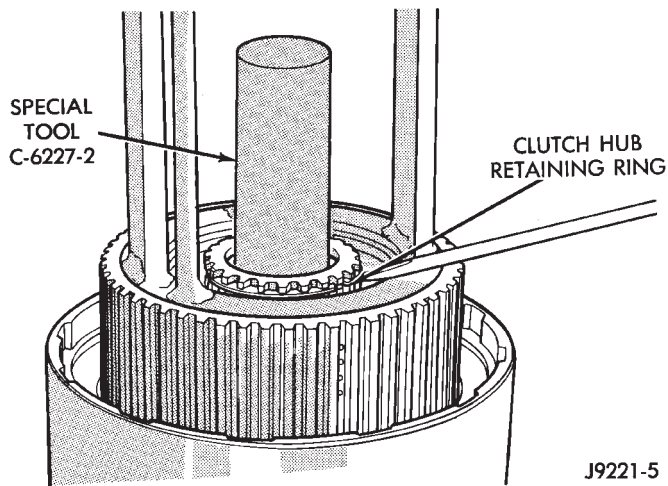

Fig. 55 Installing Clutch Hub Retaining Ring
(31) Install clutch hub retaining ring (Fig. 55). **Be very sure retaining ring is fully seated in sun gear ring groove.**
(32) Slowly release press ram, remove compressor tools and remove geartrain assembly.